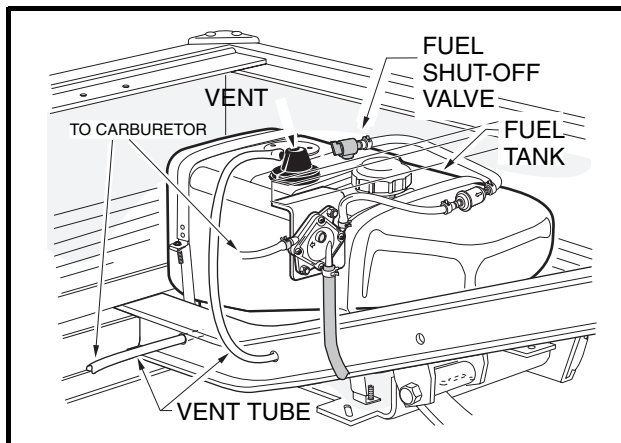
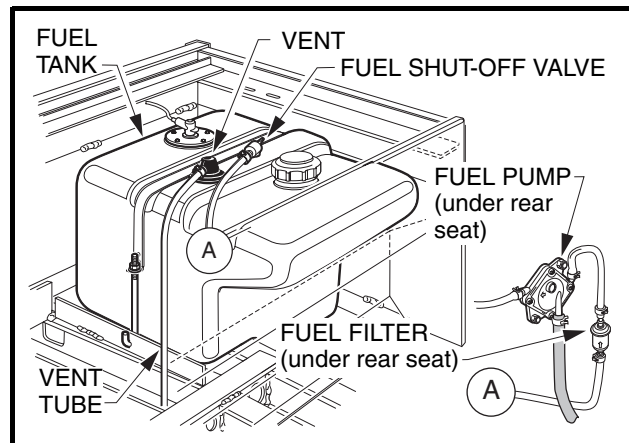

Figure 10-11 Turf 272/Carryall 272/XRT 1200 Fuel Tank
Figure 10-12 Carryall 472/XRT 1200SE Fuel Tank
- If the vehicle has an all-weather enclosure installed, the gas tank must be properly vented as shown (**Figure 10-11, Page 10-8**).
1. Fill the fuel tank with fresh, unleaded gasoline only (**Figure 10-11, Page 10-8 or Figure 10-12, Page 10-8**). See preceding **DANGER, CAUTION and NOTE**.